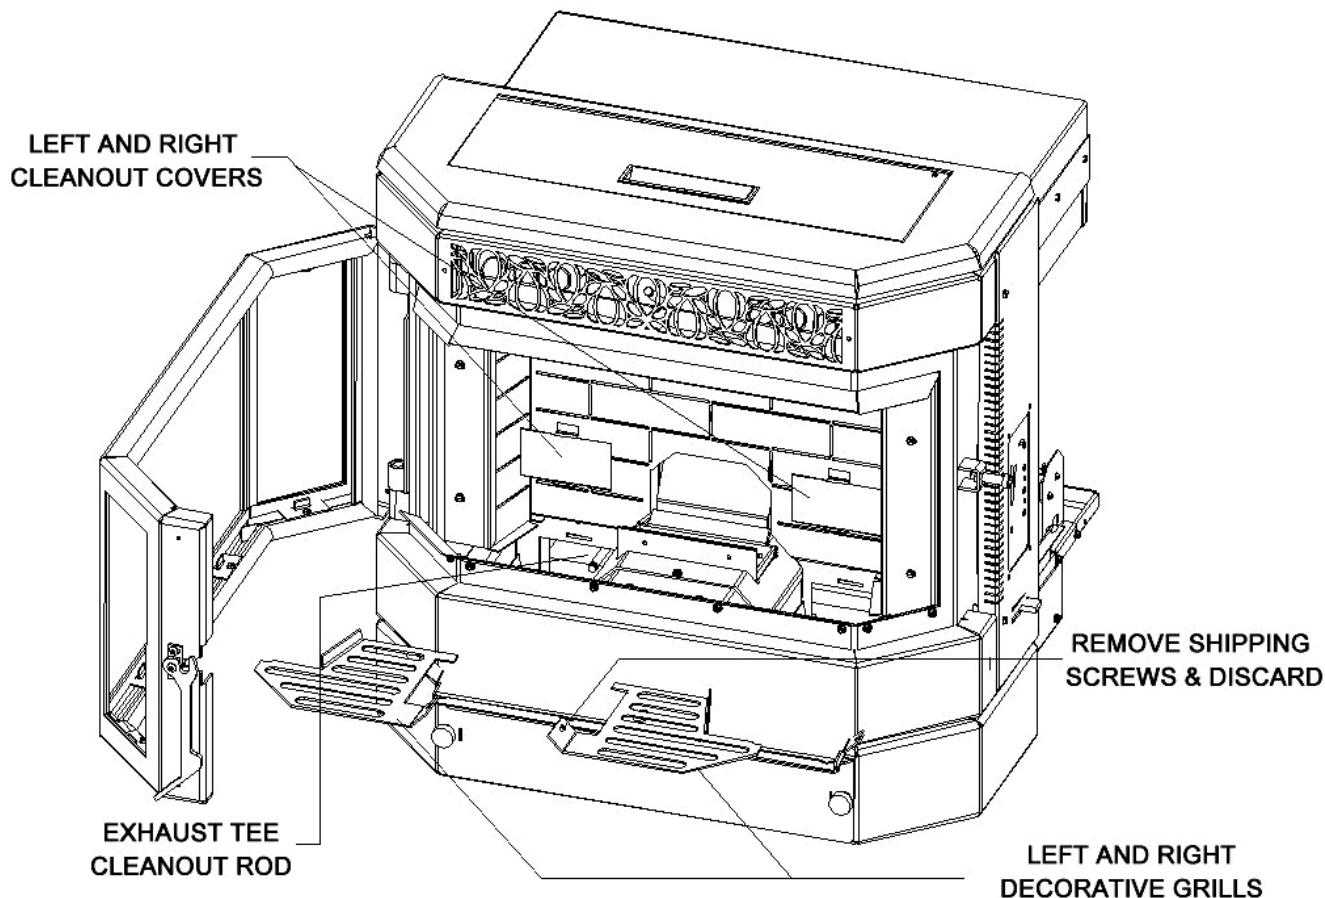
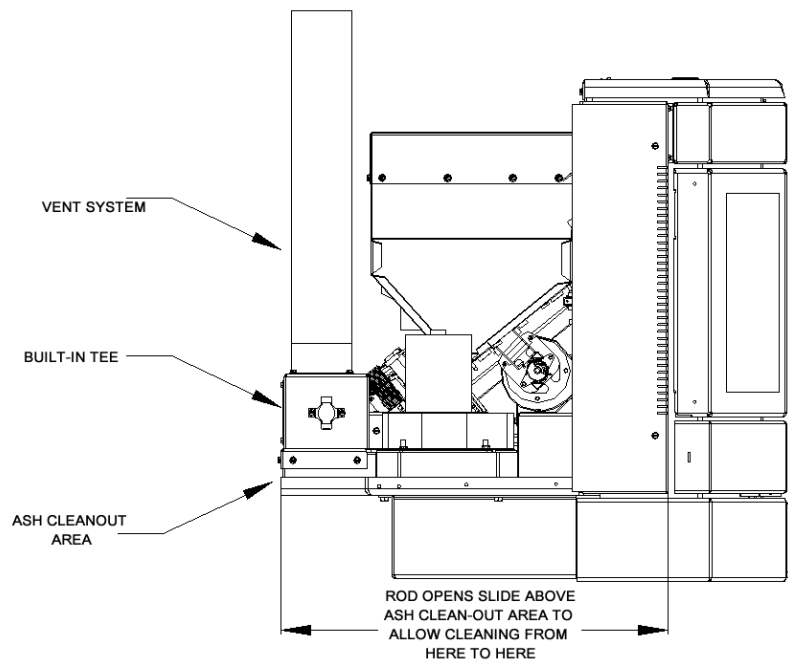

Figure 28
Figure 29
Figure 28 also shows the location of the Exhaust Tee clean-out rod. The insert has a built in cleanout to be able to vacuum the buildup that accumulates in the vent system from the front of the unit without having to pull the unit from the fireplace. Figure 29 shows the area that can be reached with a vacuum cleaner without having to pull the insert from the fireplace. The Exhaust Tee Cleanout Rod must be pulled forward to open the Cleanout Tee. Cleaning this area on a regular basis will prevent the vent system from becoming plugged with fly-ash. The recommended size of the hose to use for vacuuming this area is 1.25" outside diameter. The hose should be inserted into the left Cleanout Port and vacuum all the way back to below the built in Tee as shown in Figure 29. ***Push the Rod back in to close the bottom of the Cleanout Tee.***
2. **Exhaust System.** See Figure 28 and 29 for information on cleaning fly ash that collects in the vent system. Periodic cleaning of the exhaust system is required. Under certain conditions chimneys may plug up rapidly. Dirty poor quality Fuel, and poor installations require more frequent chimney cleanings. The products of combustion will also contain small particles of fly ash. The fly ash will collect in the exhaust vent and restrict the flow of the flue gases. Judge the frequency of cleaning by checking the amount of ash that accumulates in the built in Cleanout Tee in the exhaust system. Ask the dealer for suggested frequency of cleaning, equipment needed and procedures for cleaning. Check the Vent Cap at least once every two months during the heating season to see if it has become plugged. **See Page 26 “Preventing Chimney Fires”.**
1. **Spring Shutdown.** After the last burn in the spring let the unit cool down. Remove all fuel from the hopper and the auger. Thoroughly clean the burn pot, burn pot box, ash pan and ash traps behind the ash pan. (To locate the ash traps see figure 28)